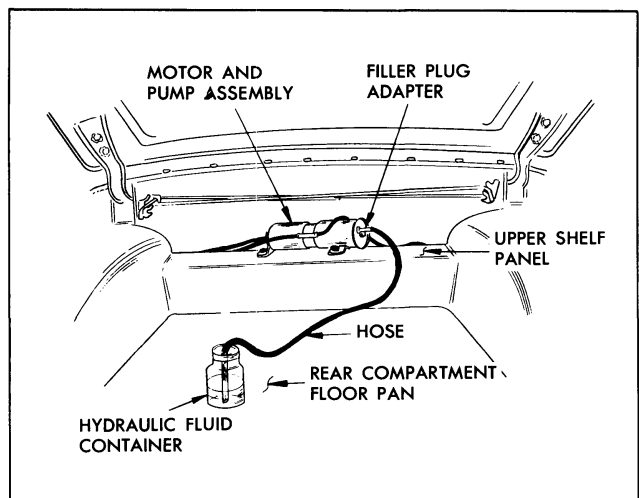

Fig. 21-58 Filling Reservoir
4. Install opposite end of hose into a container of GM Hydraulic Brake Fluid Super No. 11 or equivalent (see Fig. 21-58).